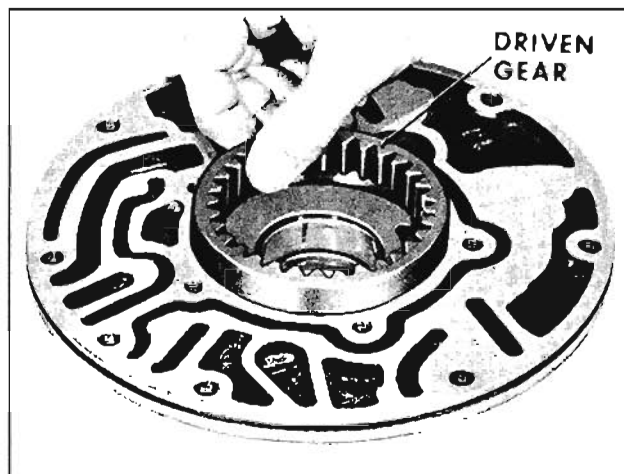

Fig. 6-326 Removing Oil Pump Driven Gear
7. Remove oil pump driven gear. (Fig. 6-326)
Carefully check to be sure the spring returns the ball to its seat. (Fig. 6-326)